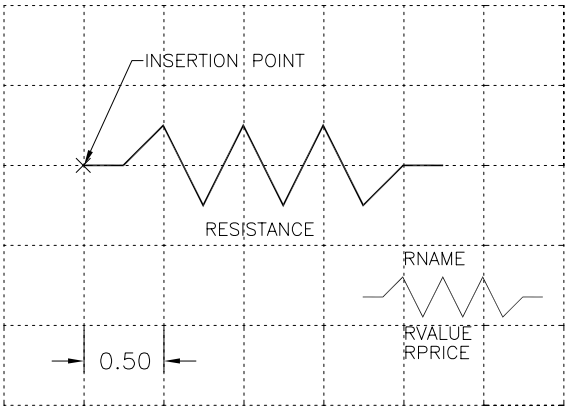

Figure 16-54 Drawing of a resistor for Exercise 1
1. Draw the resistor, as shown in Figure 16-54.
3. Define the attributes, as shown in the preceding table, and position the attribute text as shown in Figure 16-54.